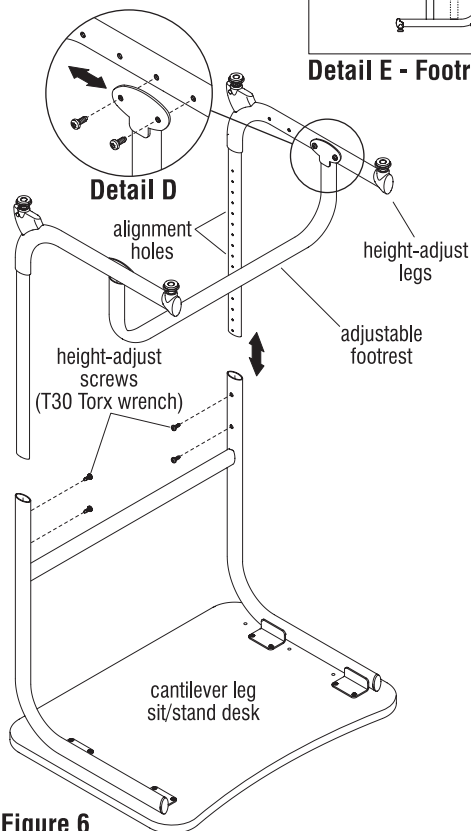

Figure 6
1. Carefully turn the desktop upside down on a soft, protective surface (Figure 6).
2. Locate and remove the height-adjust screws using a T30 Torx wrench. Move the legs up or down to desired height and re-install the height-adjust screws into appropriate alignment holes (Figure 6).